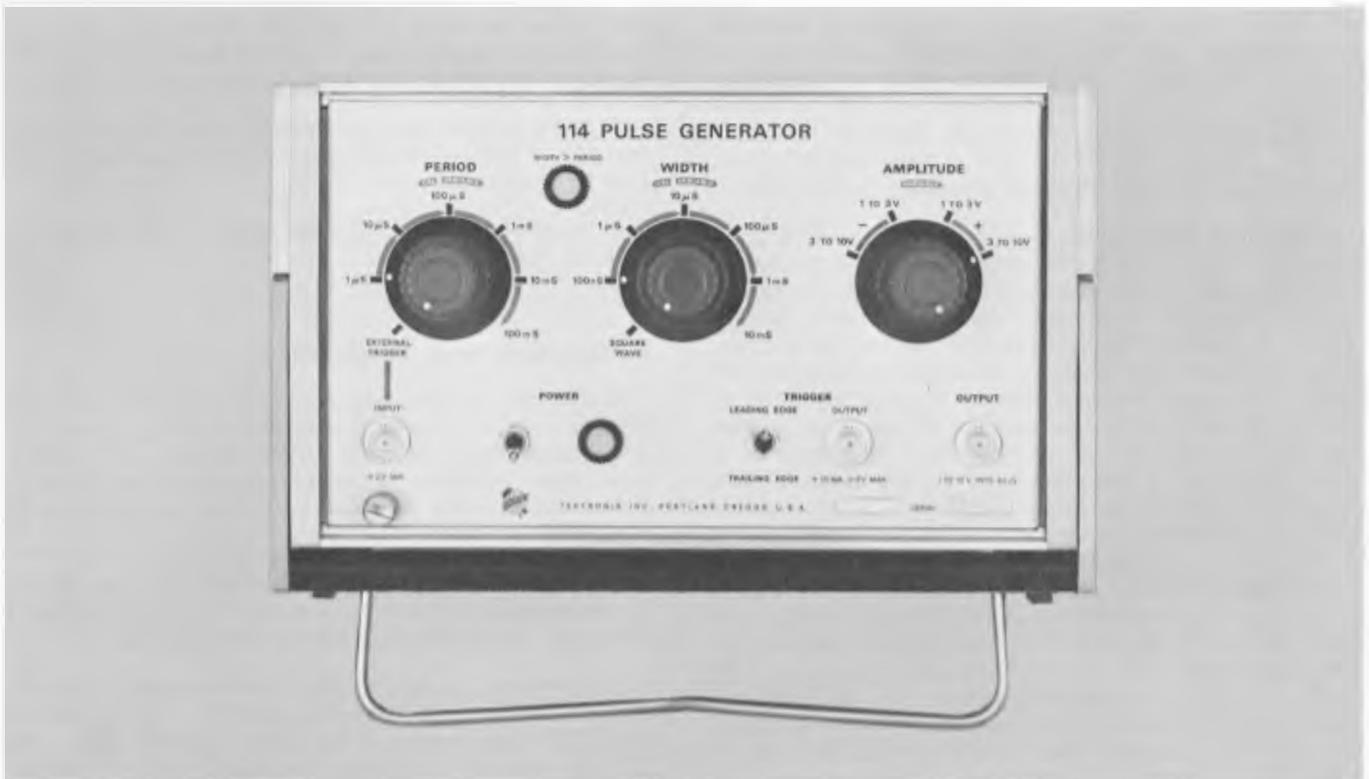

Fig. 4-2. Initial control settings for calibration.
4. Set the Type 114 front-panel controls as shown in Fig. 4.2.
- a. Set all controls as shown in Fig. 4-2